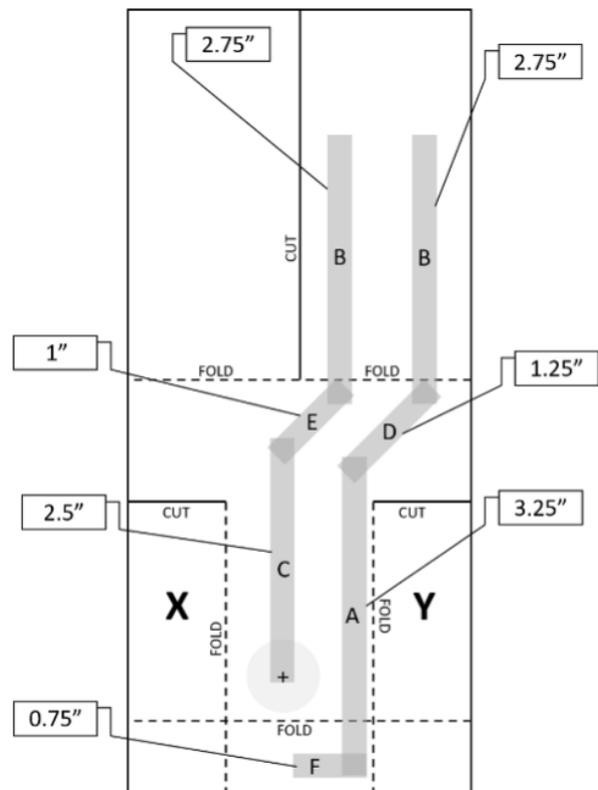

Figure 4. The locations for the pieces of copper tape are shown.
- One (1) 3.25" piece (A)
- Two (2) 2.75" pieces (B)
- One (1) 2.5" piece (C)
- One (1) 1.25" piece (D)
- One (1) 1" piece (E)
- One (1) 0.75" piece (F)
- Four (4) 0.5" pieces (These will be used to connect the LEDs in step 9. You need 4 pieces if you are adding 2 LEDs, but only 2 pieces for 1 LED.)
4. For each piece of copper tape (except for the four 0.5" pieces), peel off the adhesive backing and place it on the helicopter template as shown in Figure 4. Make sure the copper tape is securely affixed to the